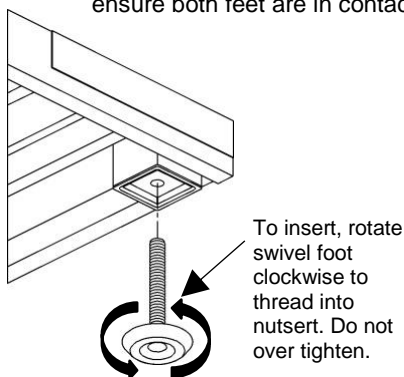

FIG. 1
3. Position the ramp and adjustable feet as needed to obtain correct height (FIG. 1). Adjust feet as needed to ensure both feet are in contact with the ground.